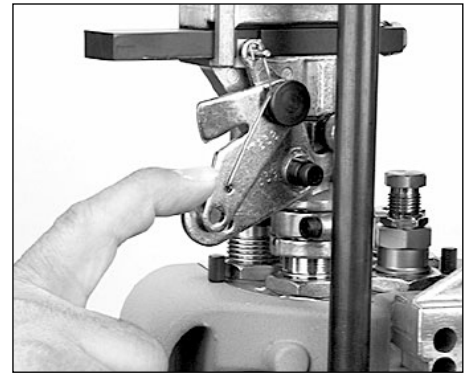

FIG 49
1. Using your forefinger, move the lock-link (#17838) down to align the hole with the slot on the Powder Measure bellcrank (#97034) **FIG 49**.